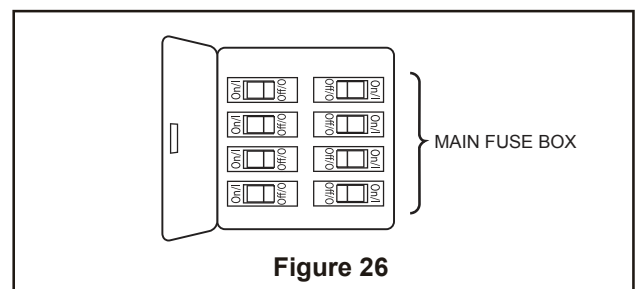

Figure 26
- 1. Restore electrical power to the outlet box by turning the electricity on at the main fuse box (Figure 26).